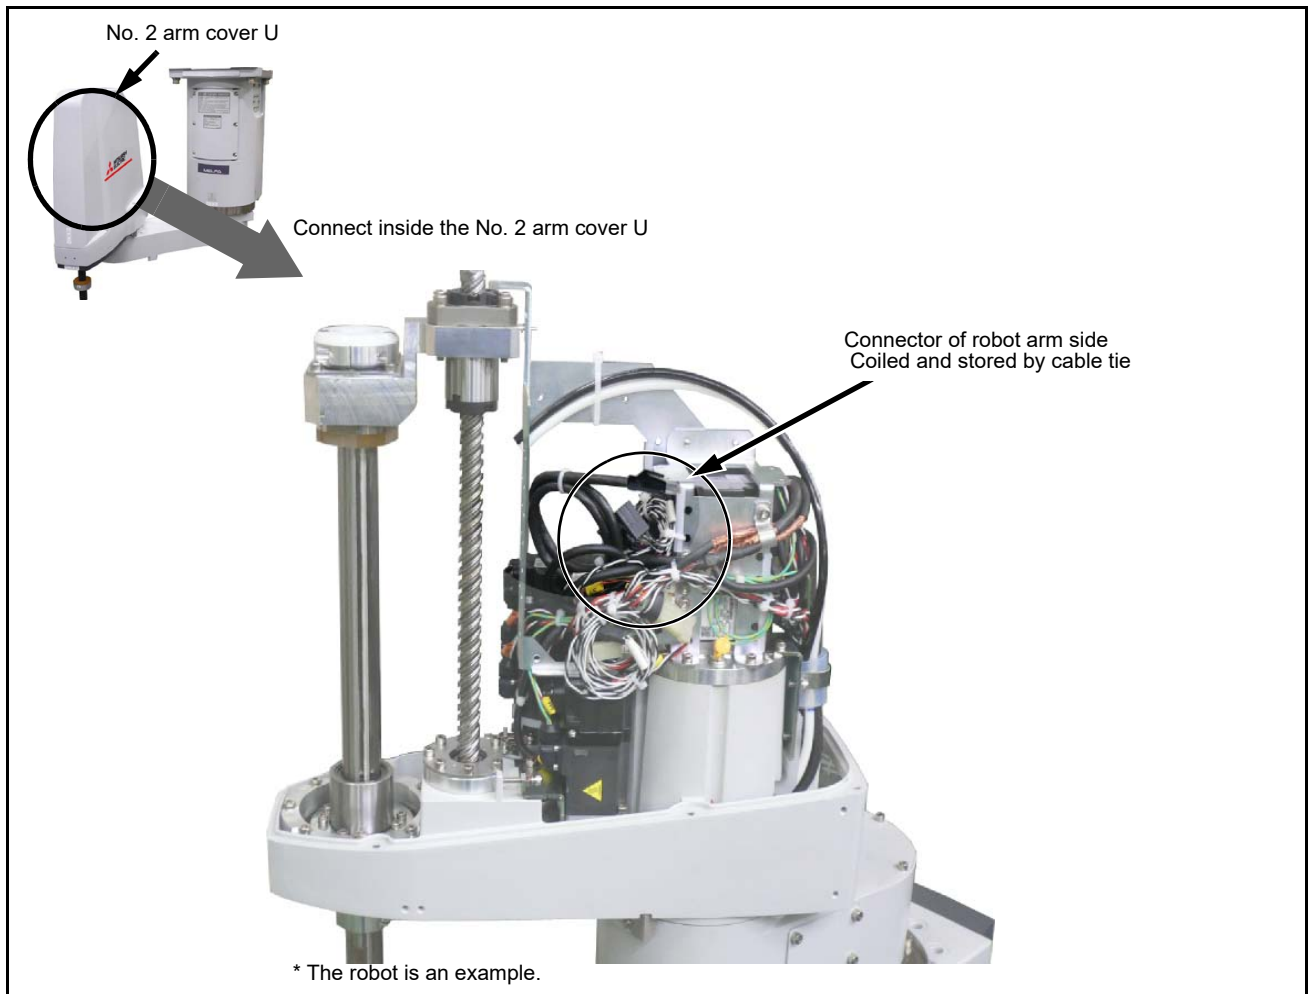

Fig.3-3 : Installing the hand output cable
Fig. 3-3 shows the hand output cable's storage location on the robot.
- 2) The hand output cable is stored in the location shown in Fig. 3-3. Pull out and check the connectors (GR1, GR2).